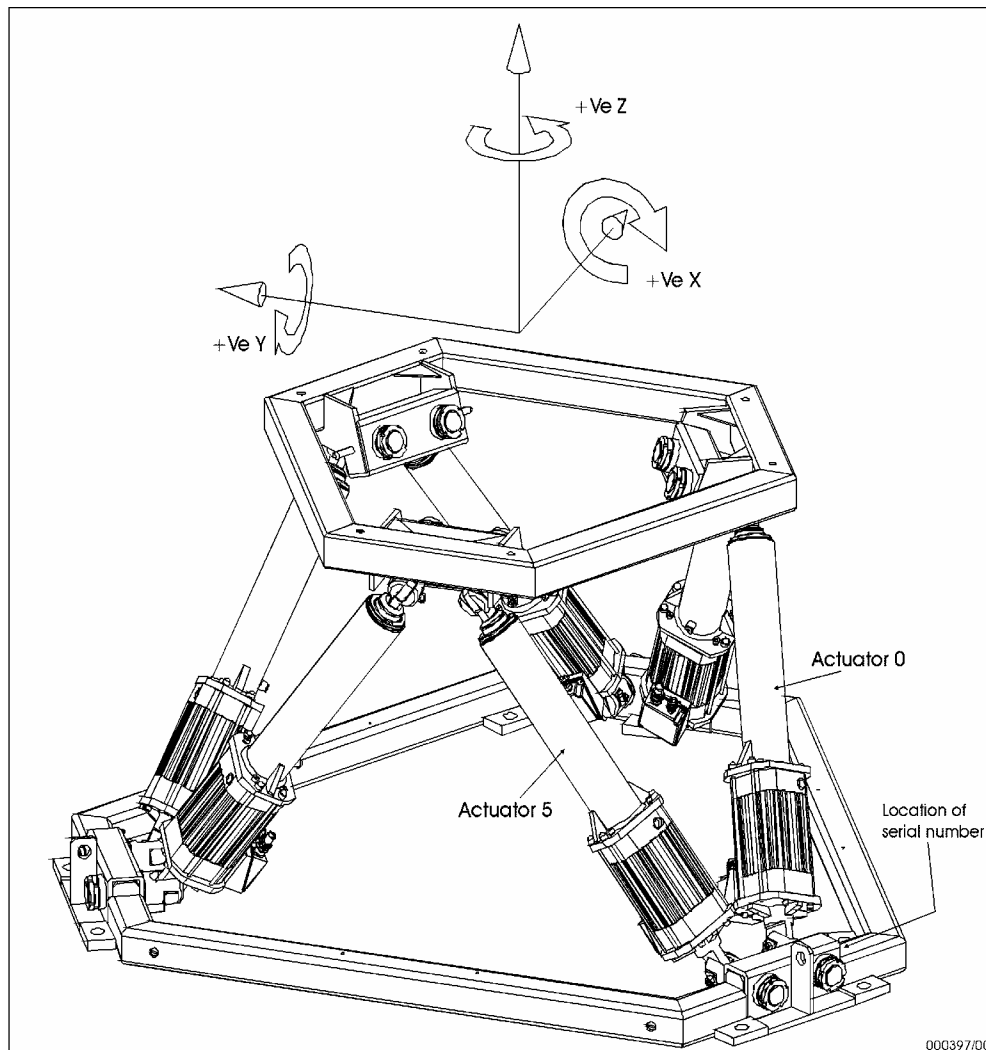

Figure 3 : Motion base actuator and axes orientation
The top frame has three axes of symmetry so there are six principle orientations in which the motion base can be positioned. Figure 3 shows the control system X-axis related to the actuator joints on the bottom frame. The X-axis is normally aligned with the payload forward / backward direction.
- The location of floor bolts should be determined by positioning the motion base in its proposed location and marking through the 15 mounting holes in the bottom frame. Refer to Figure 3 to ensure correct orientation